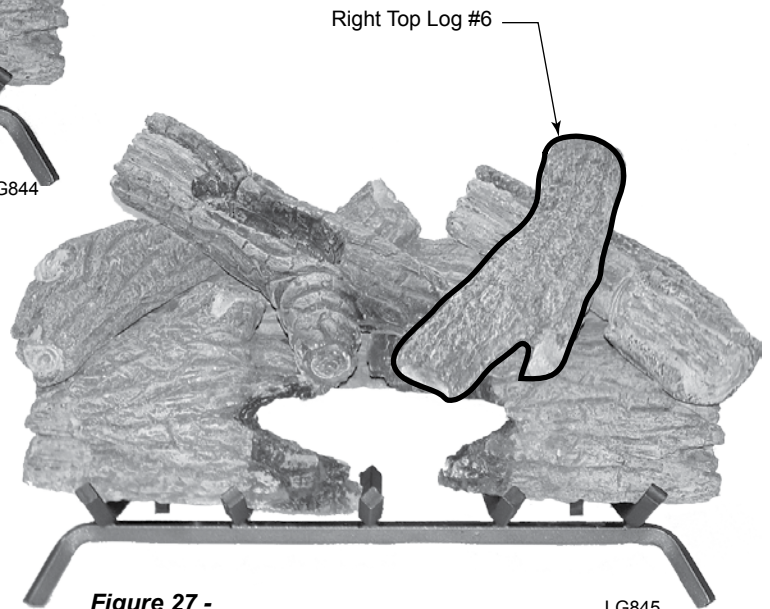

Figure 27 - Place Right Top Log
8. Place right top log #6 as shown. *Figure 27*